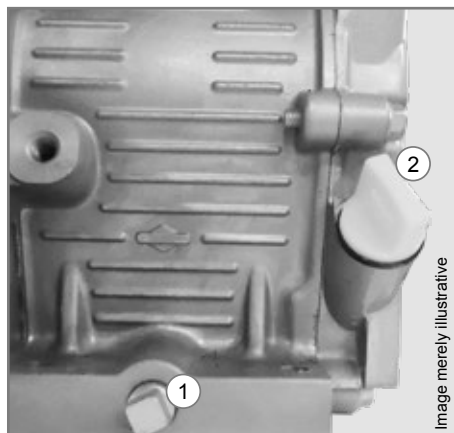

Figure 4
1. The shredder must be located on a flush, flat surface. Remove the oil drainage plug (1) using an appropriate wrench, as per Figure 4, protection glasses and appropriate gloves.
2. The oil will be more easily drained if it is already warmed up and with the oil dipstick (2) removed, as per Figure 4.
4. When the oil is fully drained, re-tighten the oil drain plug (1) as shown in Figure 4.
5. Pour the new oil in the cap opening (2) and after it reaches the appropriate level, close the cap, as per Figure 4.